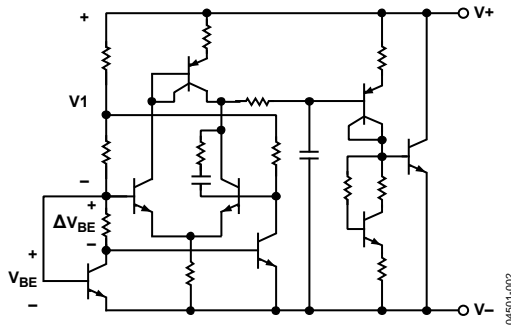

Figure 18. Circuit Schematic
The ADR520/ADR525/ADR530/ADR540/ADR550 use the band gap concept to produce a stable, low temperature coefficient voltage reference suitable for high accuracy data acquisition components and systems. The devices use the physical nature of a silicon transistor base-emitter voltage (V_{BE}) in the forward-biased operating region. All such transistors have approximately a $-2 \text{ mV}/^\circ\text{C}$ temperature coefficient (TC), making them unsuitable for direct use as low temperature coefficient references. Extrapolation of the temperature characteristics of any one of these devices to absolute zero (with the collector current proportional to the absolute temperature), however, reveals that its V_{BE} approaches approximately the silicon band gap voltage. Thus, if a voltage develops with an opposing temperature coefficient to sum the V_{BE} , a zero temperature coefficient reference results. The ADR520/ADR525/ADR530/ADR540/ADR550 circuit shown in Figure 18 provides such a compensating voltage (V_1) by driving two transistors at different current densities and amplifying the resultant V_{BE} difference (ΔV_{BE} , which has a positive temperature coefficient). The sum of V_{BE} and V_1 provides a stable voltage reference over temperature.